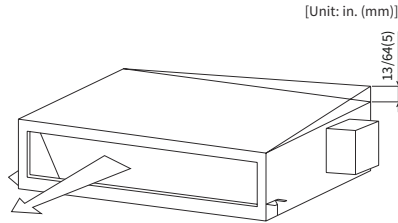

Figure 4.7 Gradient of the Top Surface
- (1) Ensure that the top is even and measure the largest top gradient.
- (2) As shown in figure 4.7, the back of the indoor unit is slightly lower than its front (0inch(0mm) - 13/64inch(5mm)), which facilitates drainage work.
- (3) Once the position is adjusted, tighten the hanging nut. Apply the thread locking agent to prevent loosening the hanging nut.